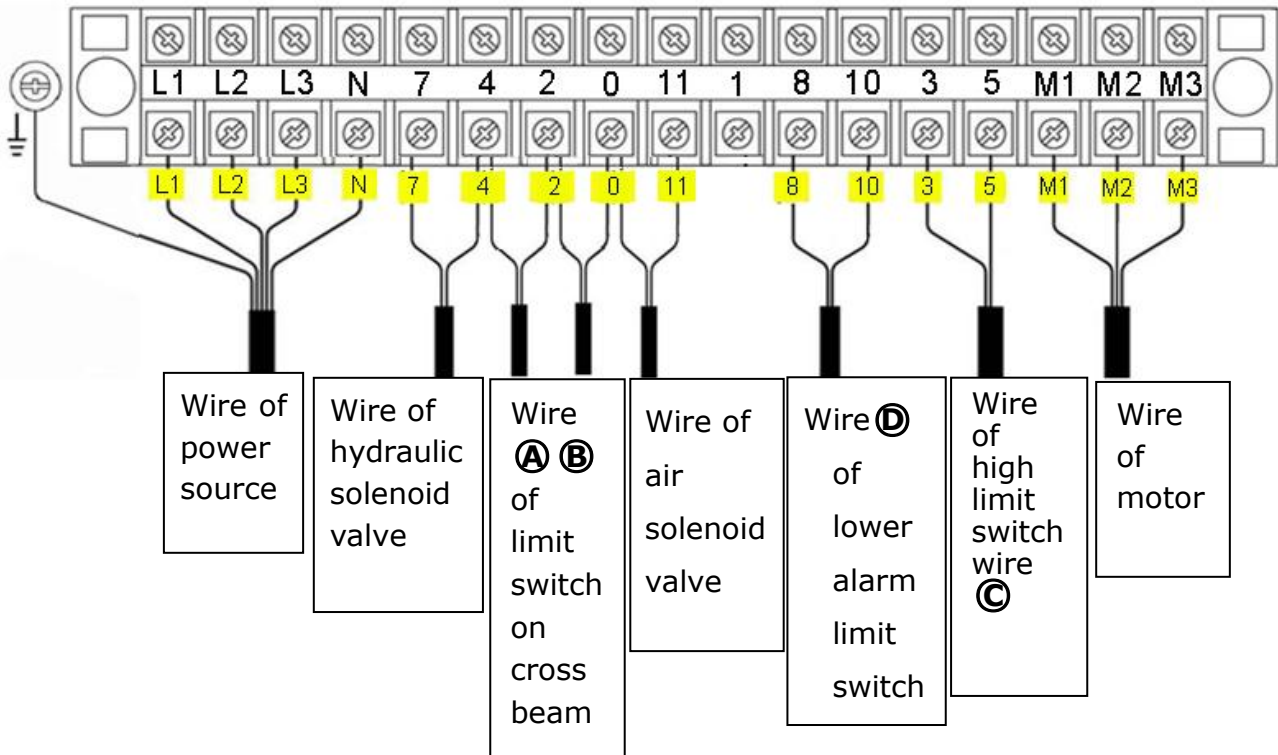

Fig. 44
5.1 Wire connection diagram in the control box (See Fig.44).